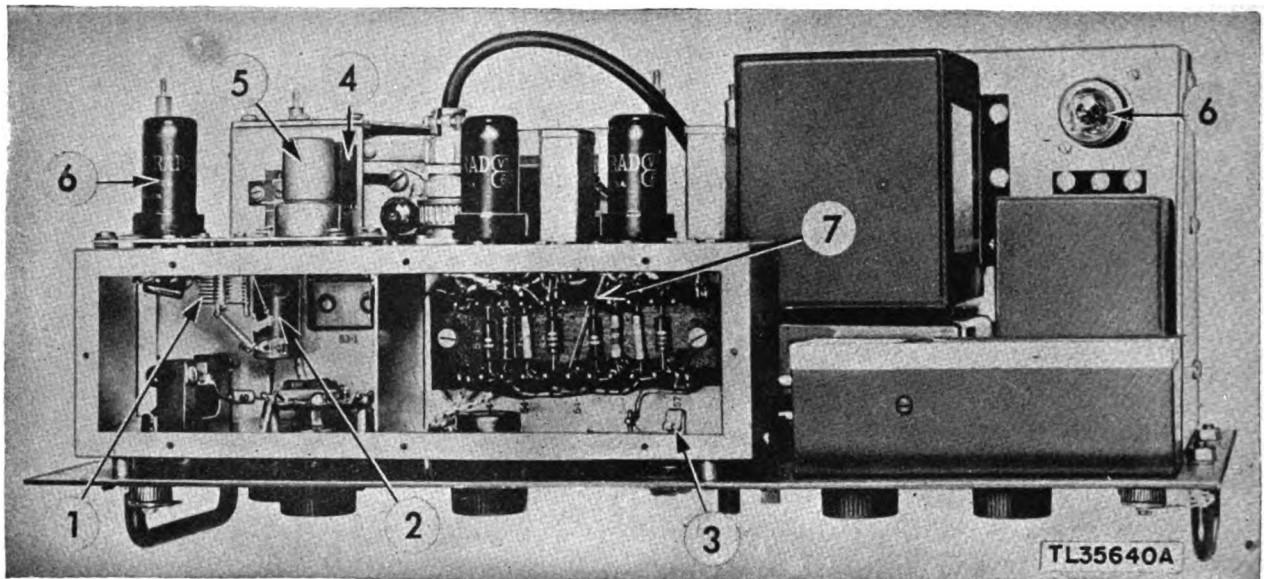

Figure 36. Signal Generator I-222-A—top view.
*b. EQUIPMENT CAUTIONS.* (1) Test equipment must be handled gently. Rough handling will throw the delicate tuning mechanism out of adjustment and alignment.
(2) Do not open the coil turret in the signal generator without the permission of the person in charge.
(3) Avoid handling the crystals (fig. 36④).
(4) Always push in the antenna of the signal generator before carrying the unit and also before removing the chassis from the housing.
ITC. TOP CHASSIS (fig. 36).